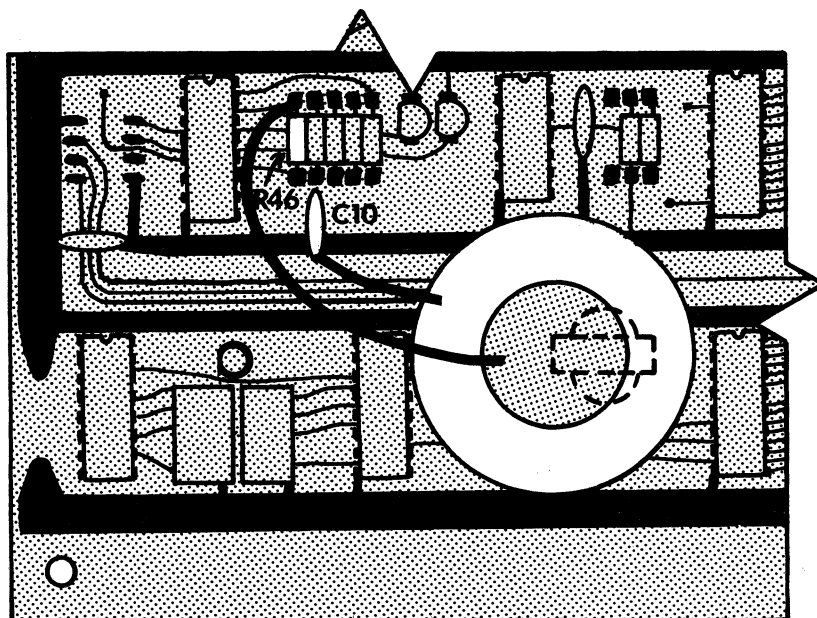

FIGURE 2
- () Solder the wire connected to the center silver colored disc of the transducer to the top end of resistor R46 as shown in figure 2 . Be careful not to short adjacent conductors during soldering.